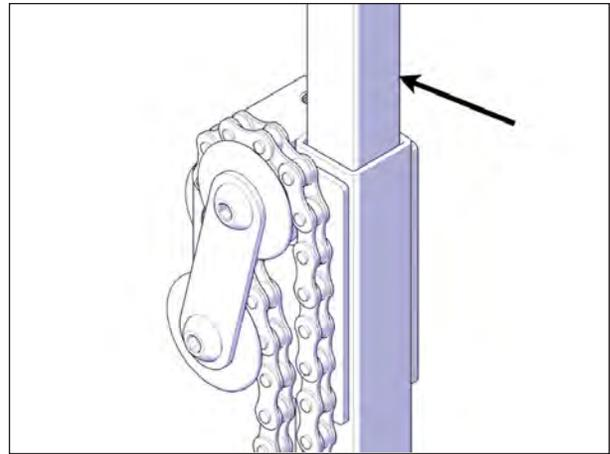

FIGURE 127: SLIDING PARTS TO GREASE
7. Spray grease on all the sliding parts and mechanical components of all jacks, see Figure 127.